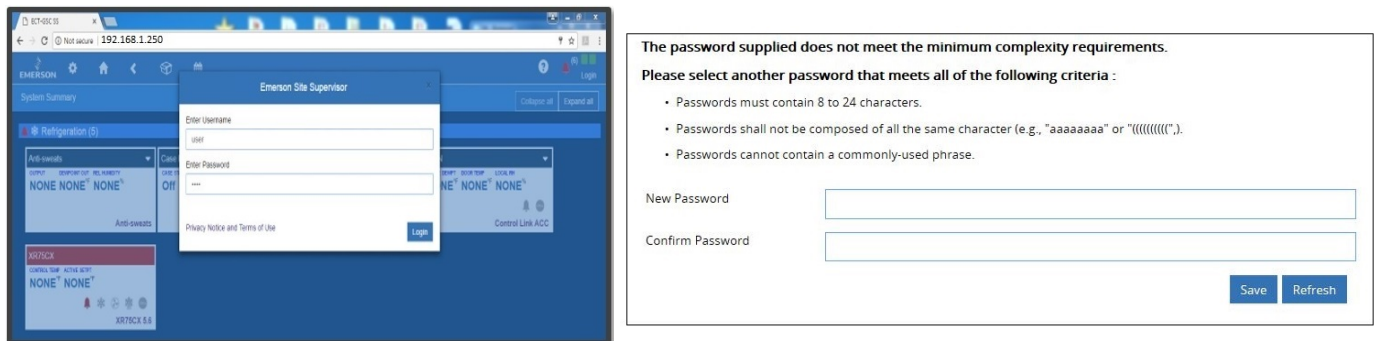

Figure 7 - Login Screen at Controller Startup and Update Password
1. Create a “network.txt” with your desired settings (**Figure 7**):